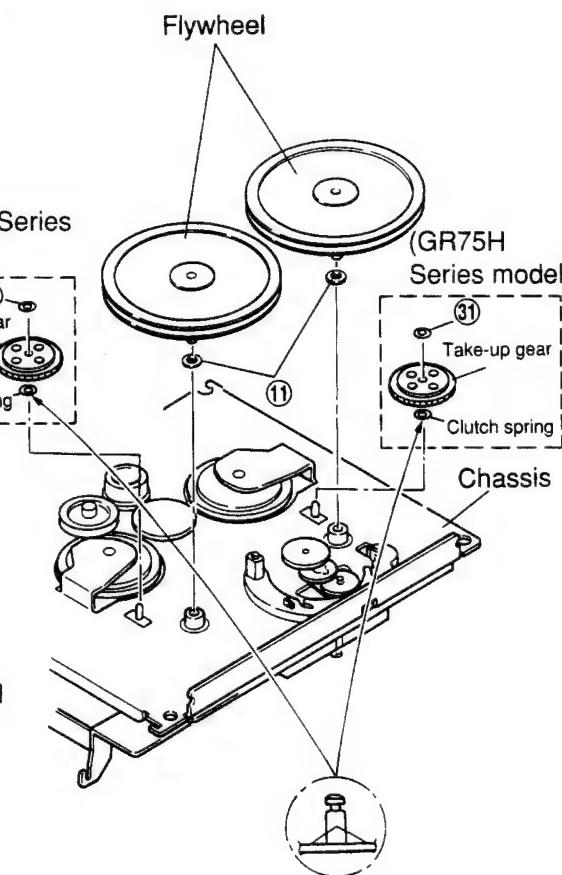

Figure 12
- (1) After removing the belt, pull out the two flywheels. Take care not to loose the polyslider washer ⑪ located between the flywheel and the chassis. (Refer to Figure 12.)
- (2) Fix the polyslider washer to the new flywheel and mount the flywheel to the chassis.
- (1) After removing the belt and the pulley idler gear, remove M1.2 lock washer ⑯ by pulling it up from the stud of the riv take-up lever assembly as shown in Figure 10. After removing the Flywheel, remove M1.2 lock washer ⑯ and remove the gear by pulling it up from the stud of the chassis as shown in figure 12. [For GR75H Series model]
- (2) Remount the take-up gear following the removal steps in the reverse order.